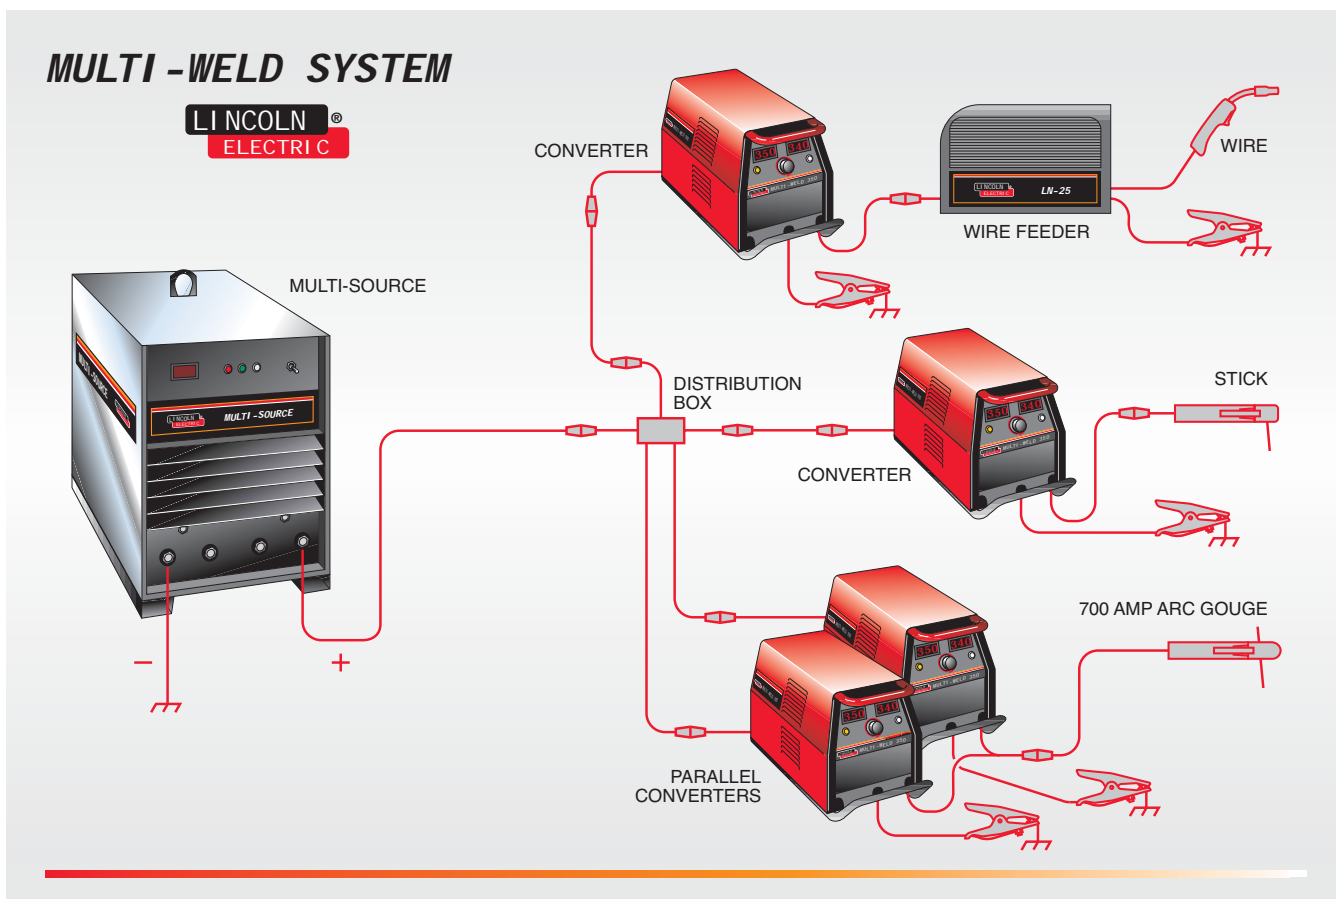

Figure 1
only input supply, and provides independent full range control of up to 350A continuous with each converter arc for + polarity stick and wire processes, as well as for arc-air gouging. (See Figure 1).
To best suit the desired inter-connection of the Converters the "pig-tail" cables may be routed into the front cable channels, and/or into the back for single or double "pig-tail" cables to the bottom-accessed covered cable connection studs. (See below and refer to Figures 1 and 2.):
The input and electrode cables of the Multi-Weld 350 Converters may be inter-connected in a Multi-Weld System using any combination of Distribution Box(es) (see Figure 1), paralleling (CC mode only) and "daisy-chaining" (see Figure 2) which best fits the field application setup within the capacity of the power source supplying the system:
1. Connect the positive (+) output connection terminal to the input supplying the Multi-Weld system, and the negative (-) output connection terminal to the work. (see Figure 1).